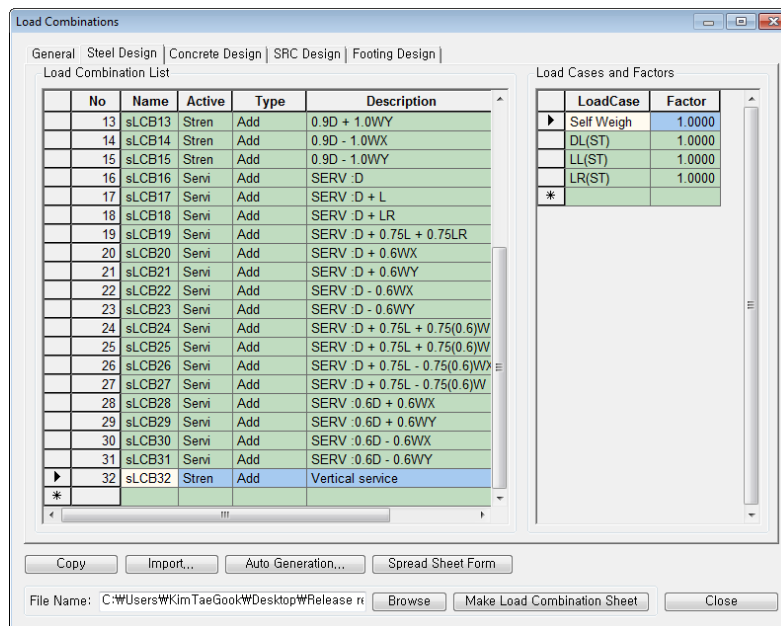

Figure 2.28 Load Combinations
8. Enter additionally **sLCB32** as shown in Fig.2.28.